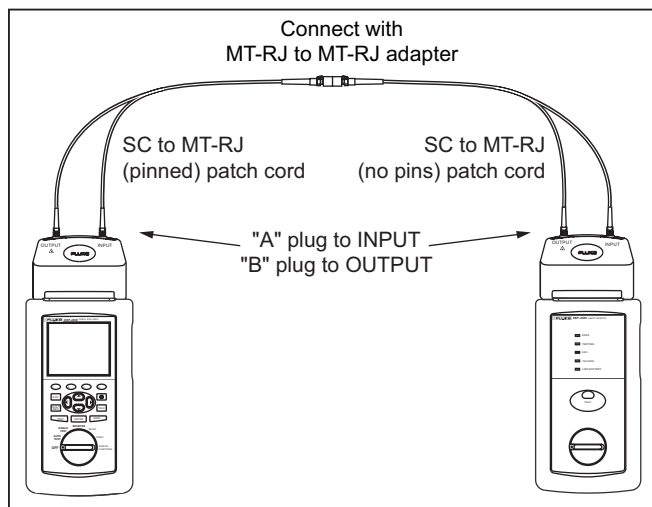

Figure 2. Reference Connections
2. Make the connections shown in Figure 2 for setting a reference.
1. Disconnect the reference connections shown in Figure 2 at the MT-RJ adapter, leaving the adapter connected to the patch cord on the main unit.